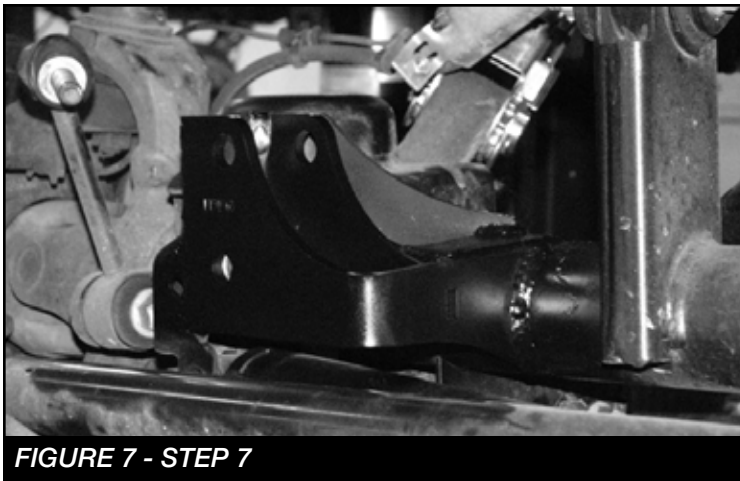

FIGURE 7 - STEP 7
7. Once the bracket has completely cooled, paint all bare metal areas. **SEE FIGURE 7**